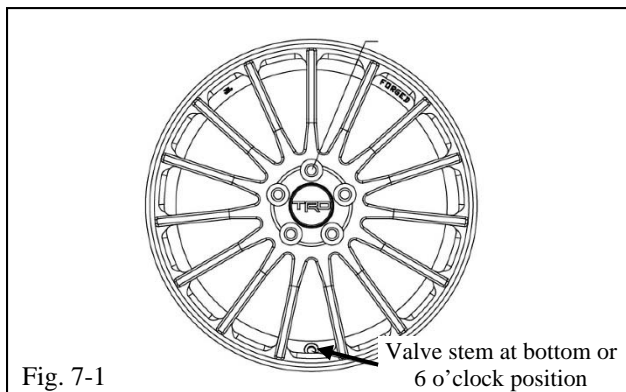

Fig. 7-1
-  (a) Install the center caps into the wheels. Be sure to orient the TRD logo right side up and level in relationship to the valve stem when it is in the 6 o'clock position. Gently push the center cap into the wheel until the cap snaps into place (Fig. 7-1).